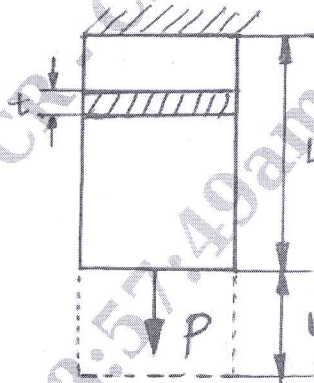

Fig.Q1(b)
- b. A rectangular bar is subjected to an axial load "p" as shown in Fig.Q1(b), determine the expression for P.E functional and hence determine value of the potential energy (PE) for the following data :  $E = 200\text{GPa}$ ,  $P = 3\text{kN}$ ,  $L = 100\text{mm}$ ,  $b = \text{width} = 20\text{mm}$ ,  $t = 10\text{mm}$ . (06 Marks)